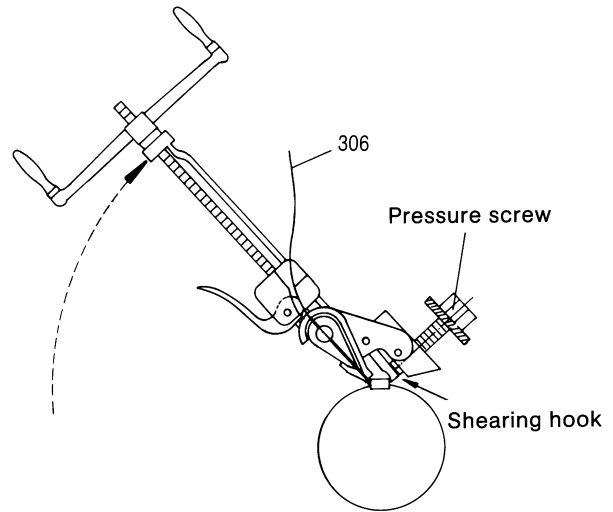

Figure 11: Shearing of the joint clamp.
- Check whether on the entire circumference of the joint collar (308), the joint clamp (306) lies in the collar slot.
- Slowly turn clamping tool upwards through approx. 60° until the shearing hook grips behind the joint clamp lock (please refer to Figure 11 below).